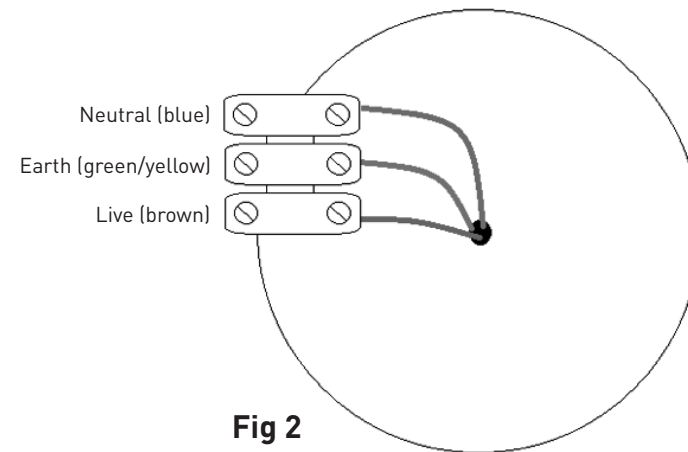

Fig 2
- Carefully wire as shown in Fig 2